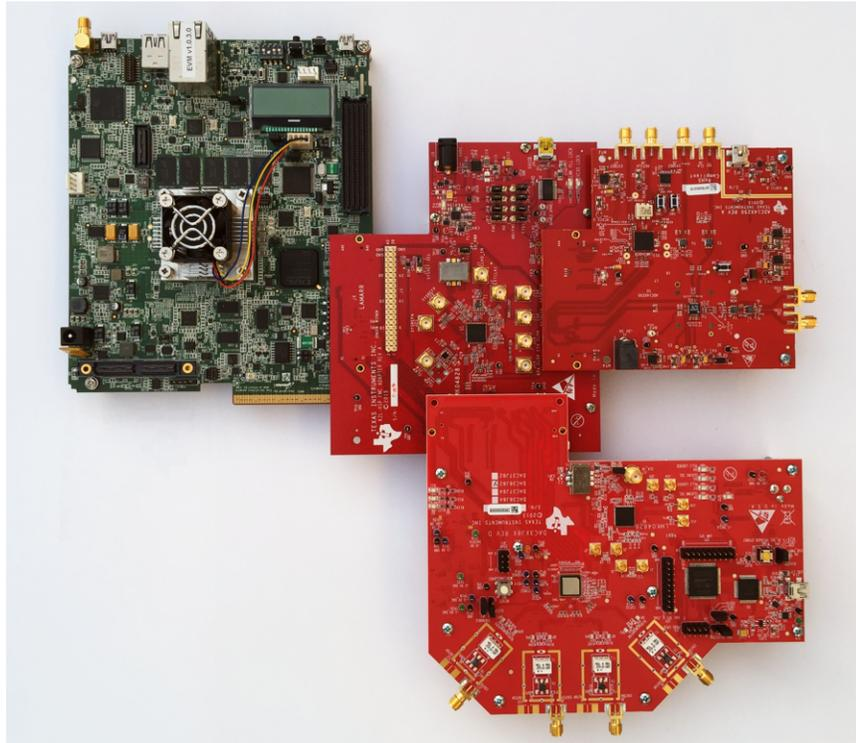
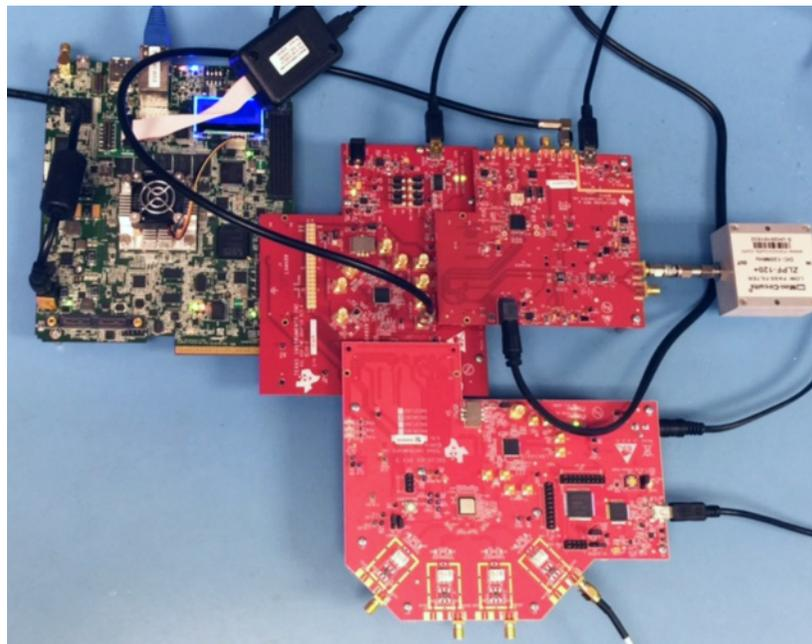

Figure 2. Boards Connected Together
Figure 3. Complete Setup With Cables and Power Supplies Connected
3. Plug the J4 FMC female connector of the DLC into CN16 (FMC female) of the 66AK2L06 EVM. For a review of the setup with all boards connected, see Figure 2.
3. Figure 3 shows the setup with all of the clock and loopback connections made previously.
Figure 2 shows the boards connected together, and Figure 3 shows the complete setup with the cables and power supplies connected.